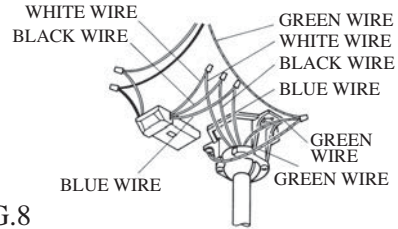

FIG. 8
2. Connect the black wire from receiver to the black wire from fan with wire nut. Connect the white wire from receiver to the white wire from fan with wire nut. Connect the blue wire from receiver to the blue wire from fan with wire nut. Connect the green wire from ceiling and green wire from hanger bracket with green wire from hanger ball with wire nut. (see Fig.8)